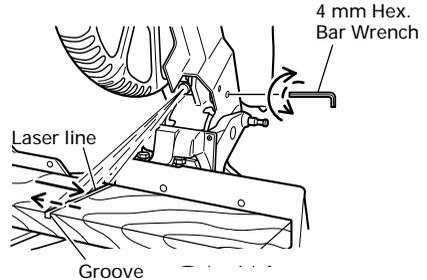

Fig. 9
(1) Light up the laser marker and make a groove of about 5 mm deep on the workpiece that is about 38 mm in height and 89 mm in width. Hold the grooved workpiece by vise as it is and do not move it.
(2) Then insert a 4 mm hex. bar wrench in the 12 diameter hole on the side of the gear case, turn the hex. socket set screw to move the laser line. (If you turn the Hex. socket screw clockwise, the laser line will shift to the right and if you turn it counterclockwise, the laser line will shift to the left.) When you work with the ink line aligned with the left side of the saw blade, align the laser line with the left end of the groove (Fig. 9). When you align it with the right side of the saw blade, align the laser line with the right side of the groove.